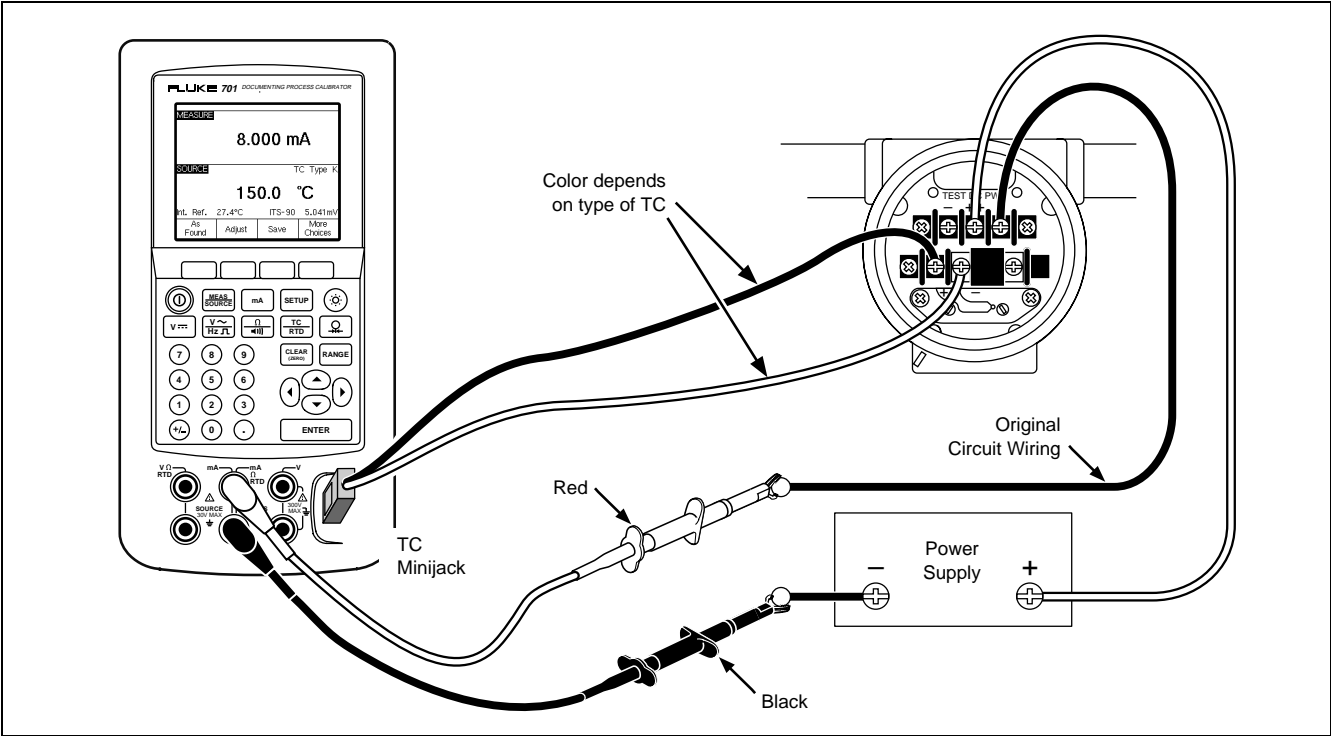

Figure 21. Calibrating a Thermocouple Temperature Transmitter
1. Connect the test leads to the instrument under test as shown in Figure 21. The connections simulate a thermocouple and measure the corresponding output current.